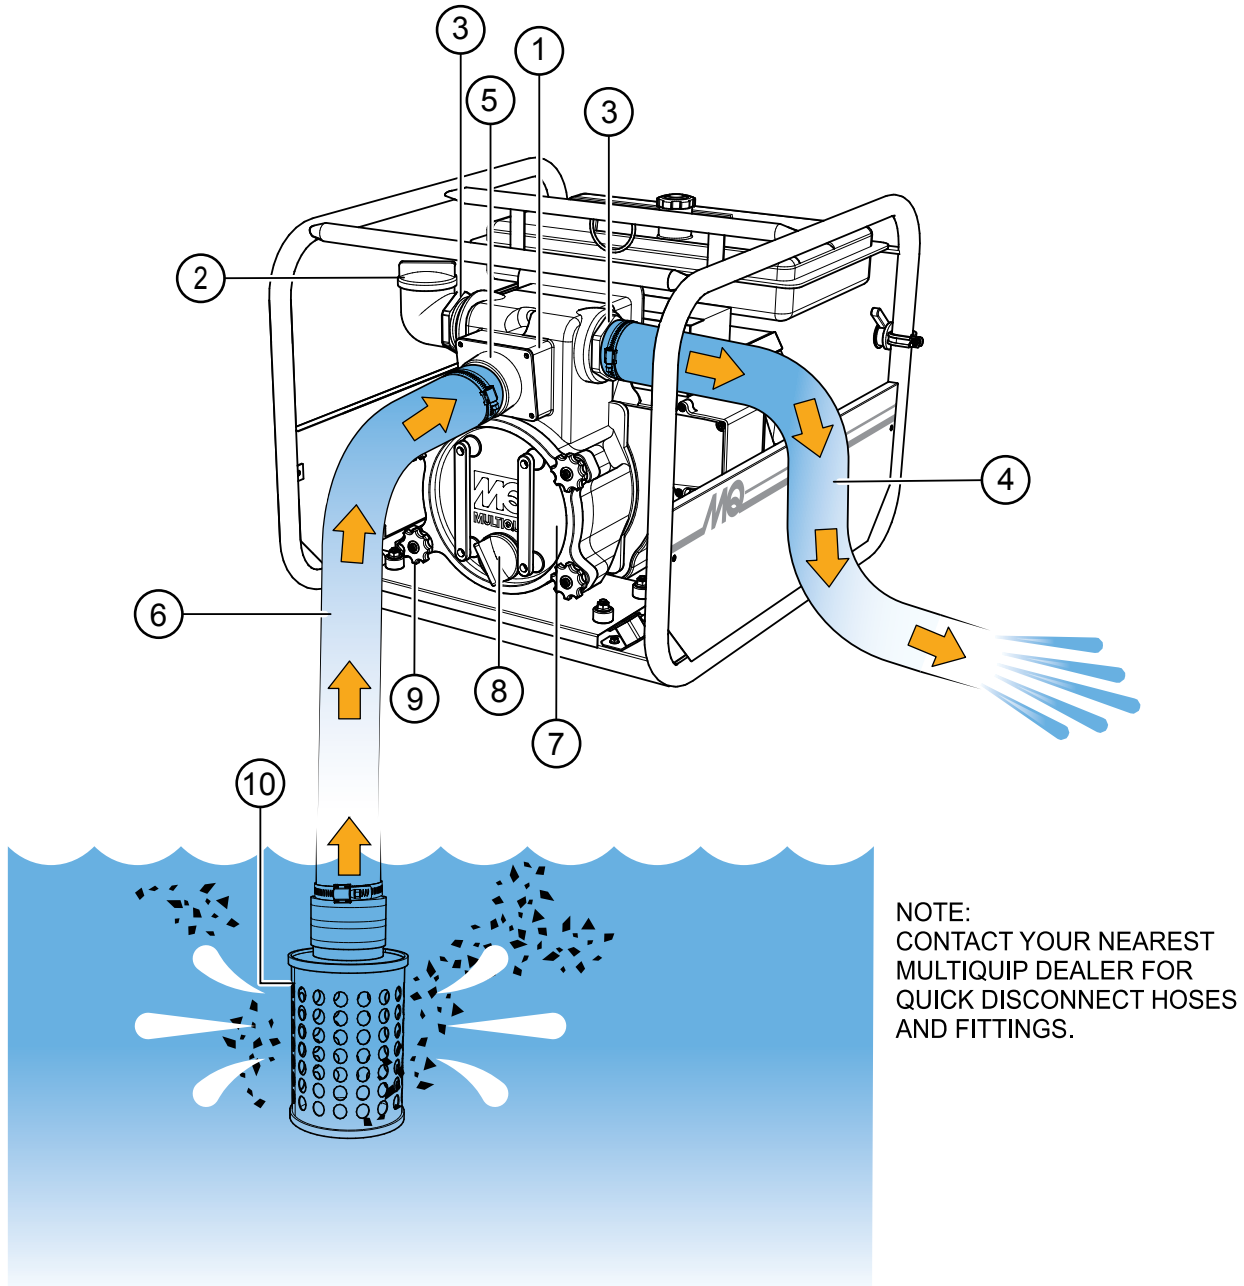

Figure 3. QP3THX Key Components
Figure 3 shows key components of the QP3THX.
3. Initially prime the pump by removing the fill cap (see Figure 3) and filling the casing with water. If the pump casing is not filled with water prior to operations, it will not be able to start the pumping process and you risk overheating the mechanical seal assembly.